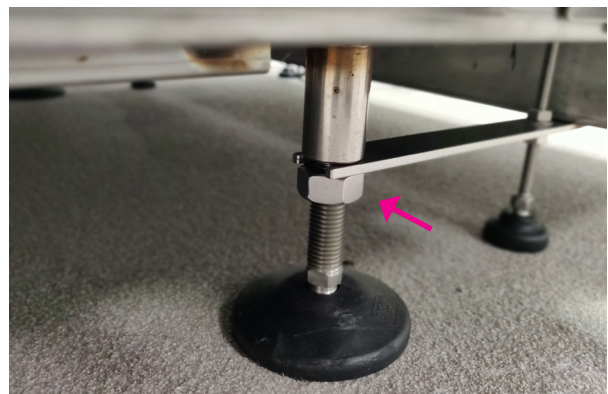

Figure 10
1. On the right hand side of the Solo Resce®, loosen the nuts on the levelling feet and position the tank. Fixate it by tightening the nuts again (Fig. 10).